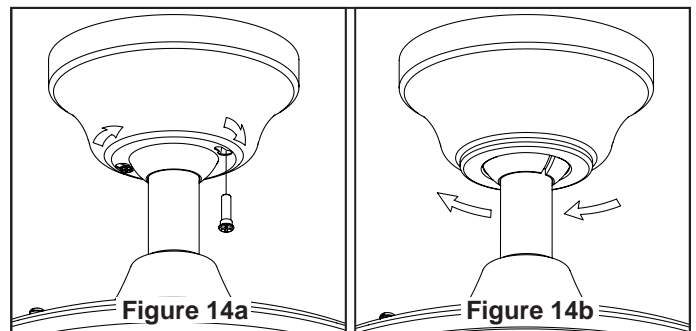

Figure 14a
- 1. Remove one of the two shoulder screws in the hanger bracket. Loosen the second shoulder screw without fully removing it. Assemble canopy by rotating key slot in canopy over shoulder screw in hanger bracket. Tighten shoulder screw. Fully assemble and tighten second shoulder screw that was previously removed. (Figure 14a)